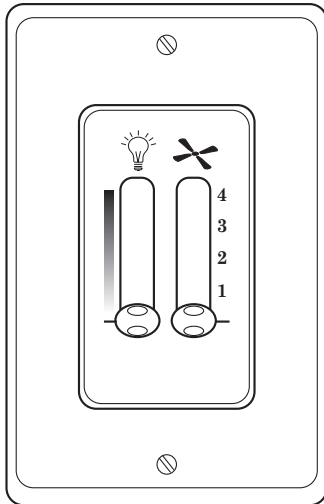

Figure 23
Your Dual Slide Fan/Light Wall Control (Figure 23) has full control of your fan and lights.
- 1. To set the desired fan speed, push the fan knob up to operate your fan on low to high speed (1 - 4 settings) (See Figure 23).
- 3. To set the level of light brightness, push the light knob up to operate your light on low to high settings (See Figure 23).